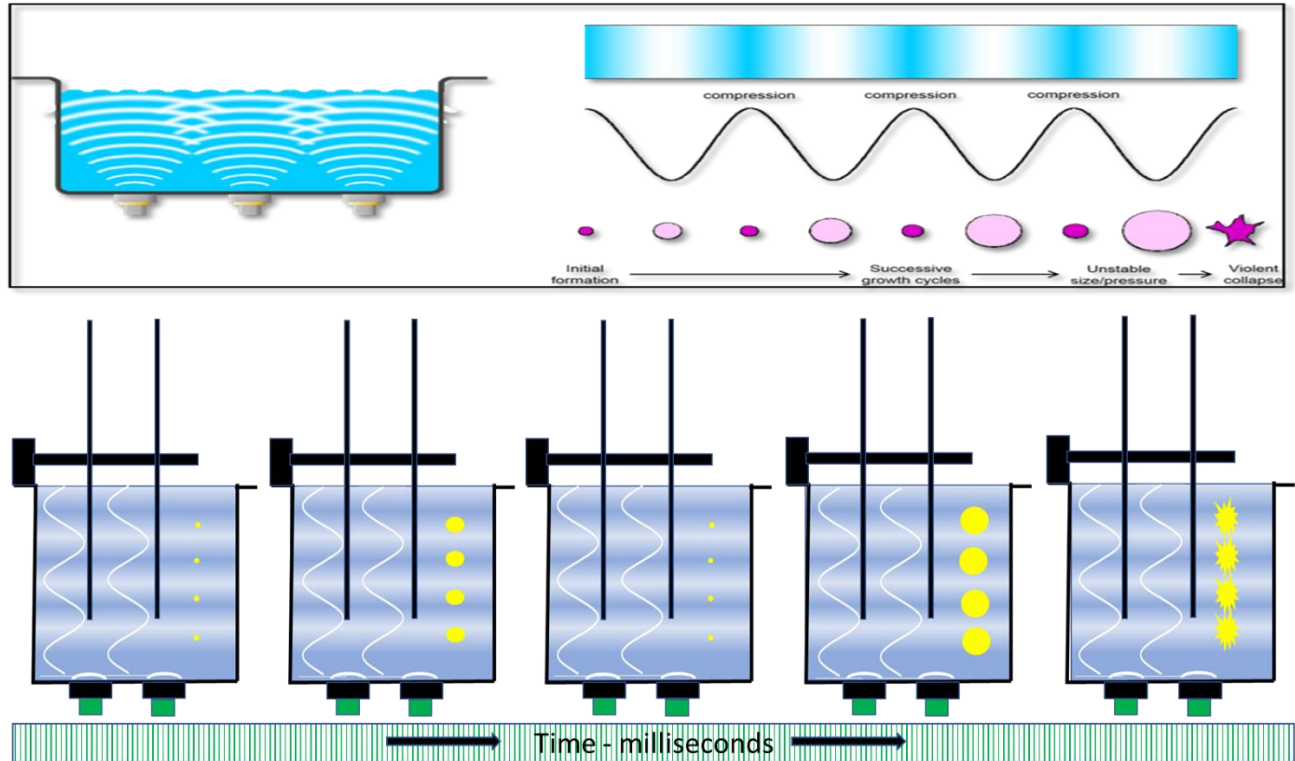

Figure 52 - Fundamentals of Ultrasonic Cavitation
XIV.1.1 The basic principle is that ultrasonic sinusoidal sound waves can produce bubbles that will grow until they collapse and the associated event is termed 'cavitation' as illustrated **Figure 52.** Over a period of milliseconds, as a result of the positive and negative acoustic pressure cycles, cavitation bubbles form, expand (termed rarefaction), compress, expand, compress and then expand enough that they then implode. This process repeats and the implosions releases energy and localized agitation producing the scrubbing action for cleaning. The energy associated with cavitation is known by any motor boat owner who has experienced propeller pitting/wear from cavitation, and the same phenomenon can be experienced with centrifugal pumps.
- XIV.3.7 **Record Spacing:** When cleaning a stack of records that uses a UCM with bottom firing transducers, there is discussion on the internet that records should be spaced not closer than the UCM wavelength (see **Table XXI**). The details and derivations are inconclusive. The wave-length which is dependent on the transducer frequency would be measured parallel to the record surface. But the amplitude which is a function of power would be measured perpendicular to the record surface; and this is illustrated **Figure 52**. Will spacing records too close impede the maximum amplitude – unknown. Industry commonly uses 25 kHz (wavelength 61.2 mm in 40°C/104°F DIW) for gross-metal cleaning; and does not space parts 2.5" apart; noting that ultrasonic waves will pass through metal. However, spacing records too close could affect the amplitude of the ultrasonic wave since the associated acoustic energy/pressure could be lost to the record (as heating). Additionally, for lower kHz UCM, cleaning too many records at a time can result in significant reduction in cavitation intensity because of flow rate affect (see **paragraph XIV.5**). So, spacing the records about equal to the wavelength should help to maximize cavitation intensity while prevent over-loading the UCM (from record mass, surface area and flow rate) and therefore is probably good practice. This is especially true for the lower kHz UCM (such as 35-40 kHz) that are more susceptible to flow rate interference.